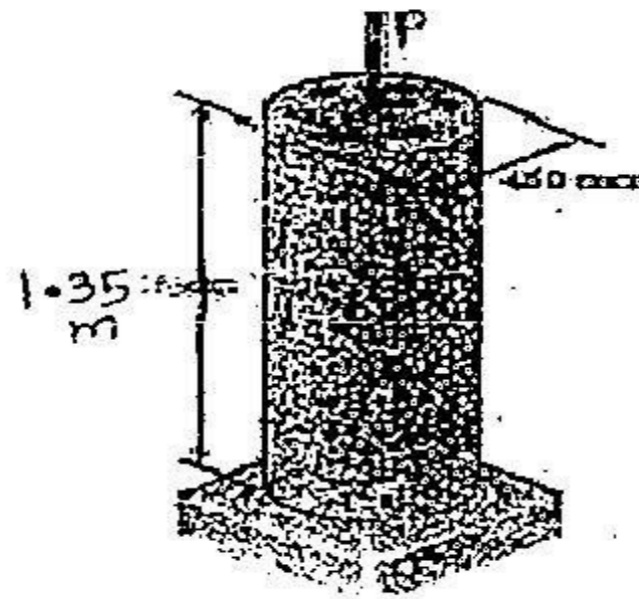

FIG. 4
Q. 2. a) The 1.35 m. concrete post of diameter 0.45 m. is reinforced with 6 steel bars, each with a 28 mm. diameter. $E_{\text{steel}} = 200 \text{ GPa}$ & $E_{\text{concrete}} = 29 \text{ GPa}$. Find the normal stresses in the steel & in the concrete when a 1560 kN axial centric force P is applied to the post. Refer fig. 4. (07M)